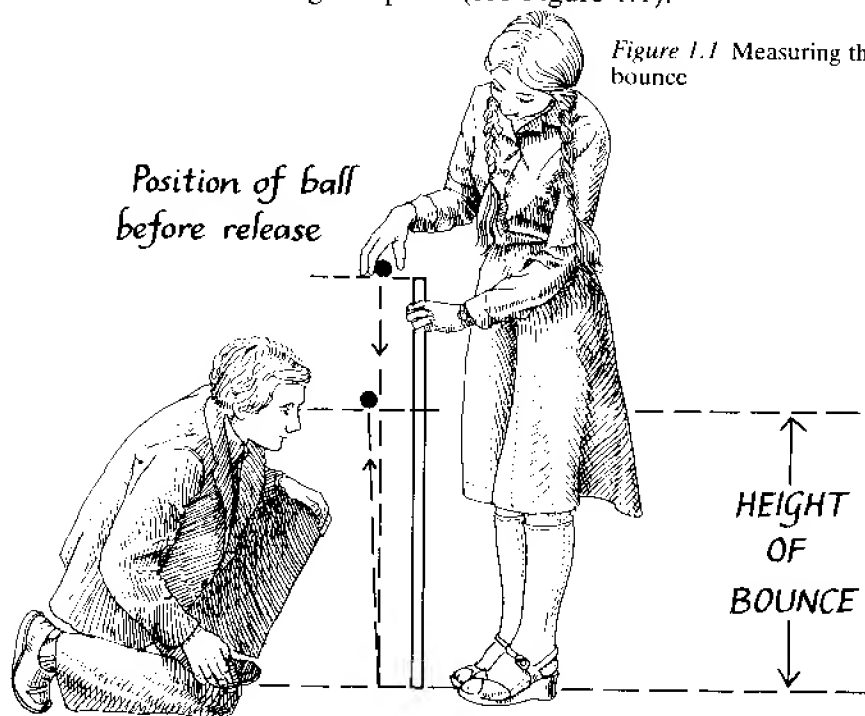

Figure 1.1 Measuring the bounce
2. To measure the height of the bounce, you will need to get well down so that your eye is level with the bottom of the ball when it has reached its highest point (see Figure 1.1).